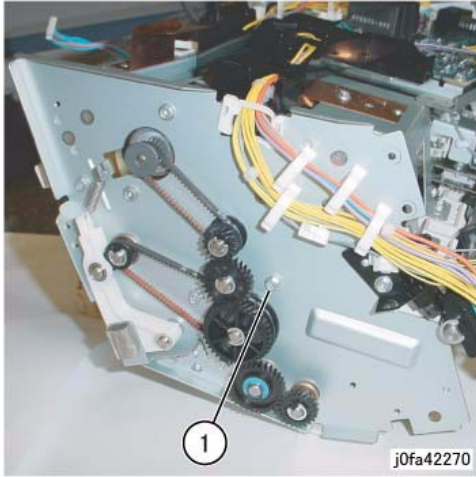

Figure 6 Removing the Screw
14. Remove the rear Screw (Figure 6):